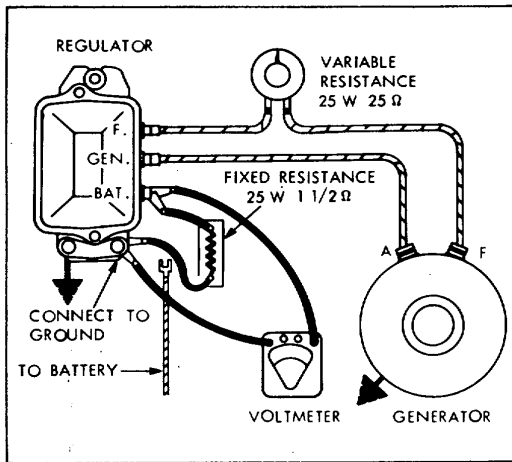

Figure 5-8. Voltage Regulator Test Setup
- Disconnect battery lead from BAT terminal (fig. 5-8) of regulator and connect 1-1/2 ohm 25 (or more) watt resistor between the BAT terminal and ground on frame.